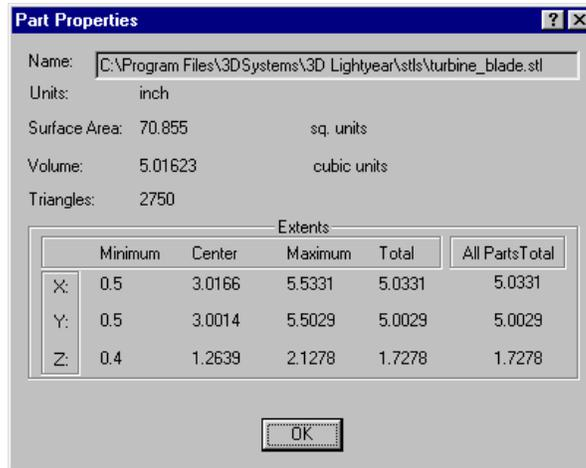

Figure 43. *Part Properties Dialog*
14. Click the "Part Properties"...  **icon which opens the dialog illustrated in Figure 43.**